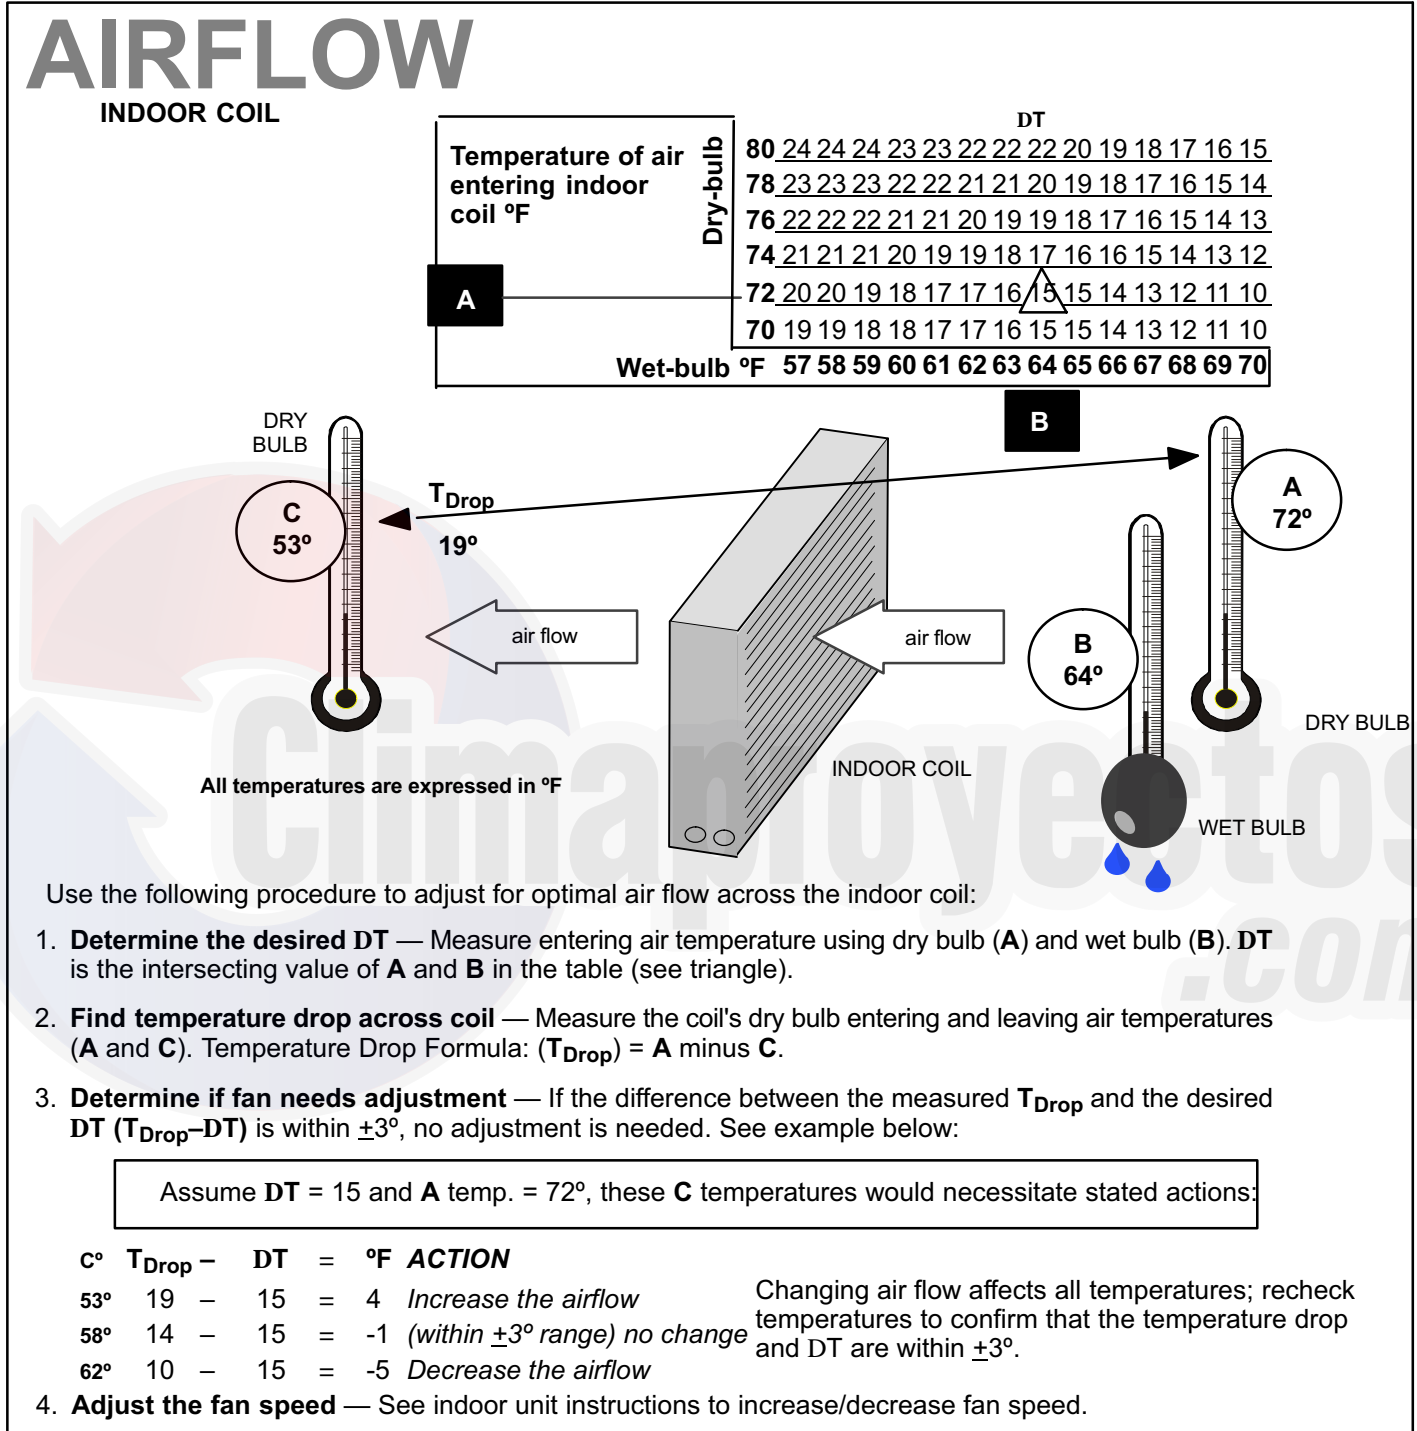

Figure 17. Checking Indoor Airflow over Evaporator Coil using Delta-T Chart
This system uses HFC-410A refrigerant which operates at much higher pressures than HCFC-22. The pre-installed liquid line filter drier is approved for use with HFC-410A only. Do not replace it with components designed for use with HCFC-22. This unit is NOT approved for use with coils which use capillary tubes or fixed orifices as a refrigerant metering device. Check airflow using the Delta-T (DT) process using the illustration in figure 17.